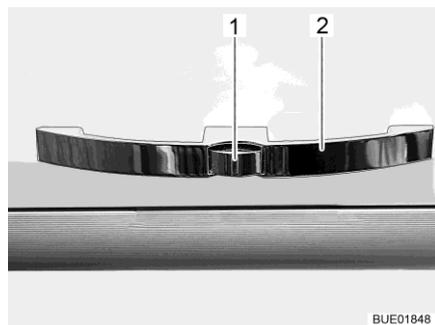

Fig. 49 Furniture flap with handle (example)
- Press the release knob (Fig. 49,1) on the handle (Fig. 49,2) and hold it down.